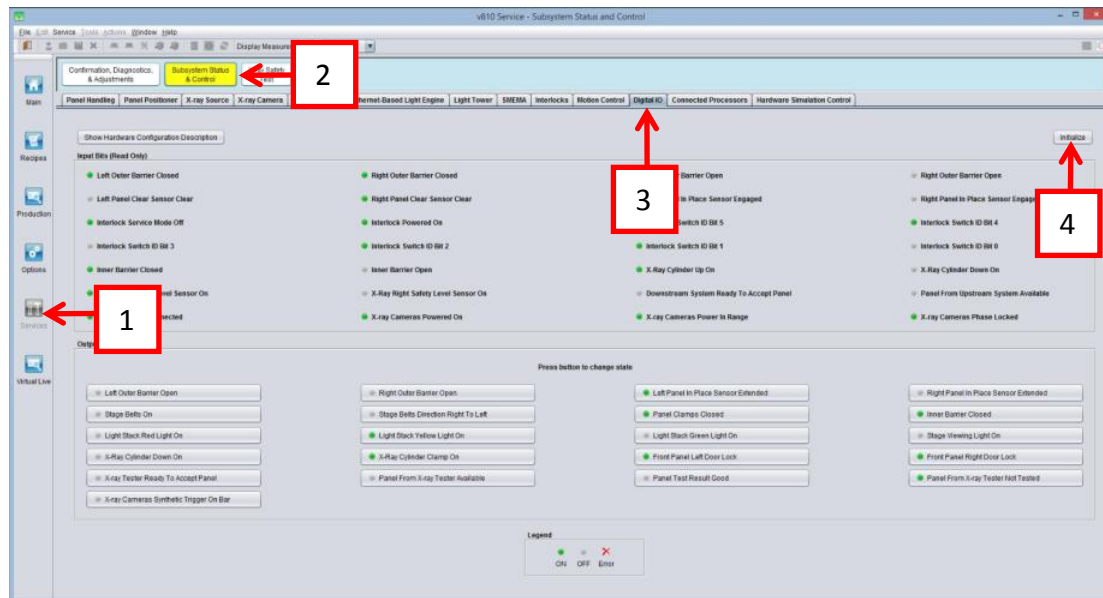

Figure 35 Digital IO
2. At V810 GUI, go to Services->Subsystem Status & Control->Digital IO and click “Initialize” as shown in Figure 35.